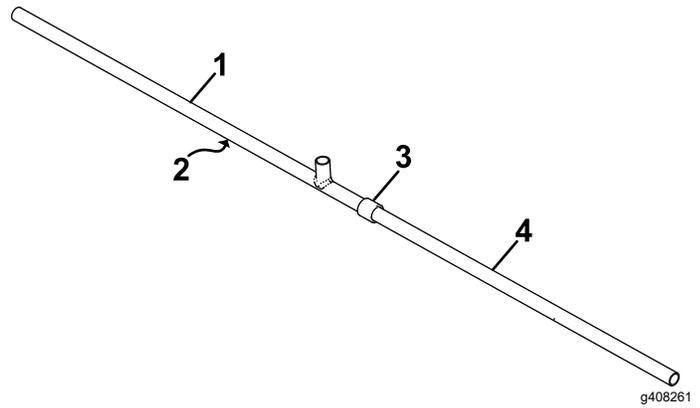

Figure 16
1. Use thread sealer compound to connect the 2 boom pipes to the coupler (Figure 16).